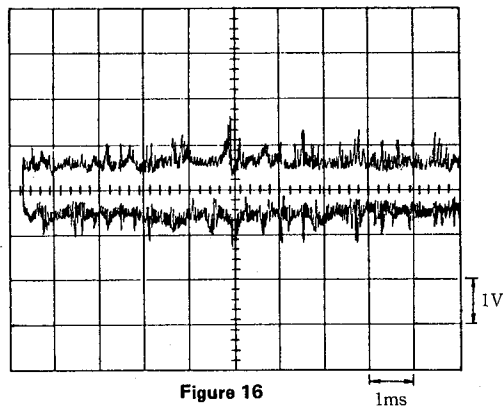

Figure 16
- (1) Insert the Philips Test Sample 4 test disc (non-scratched), observe the noise voltage on the voltmeter, and adjust VR103 so that the noise voltage on TP103 and TP102 is of $0.3V\text{ RMS} \pm 0.01V$. (Figure 16)
6-1 Adjustment of Turntable Height (Figure 16)